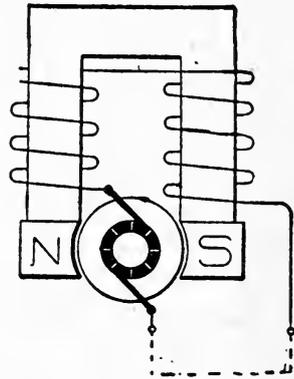

FIG. 43.
**109.** In a SERIES WOUND DYNAMO the field circuit and the external circuit are connected in series with the armature circuit, so that the entire armature current must pass through the field coils. (See diagram, fig. 43.)
adjusted, two brushes are exactly opposite each other. In a dynamo they are placed a trifle in advance of a vertical line that might be drawn through the center of the armature in figs. 43—45, and in a motor a trifle behind this line.